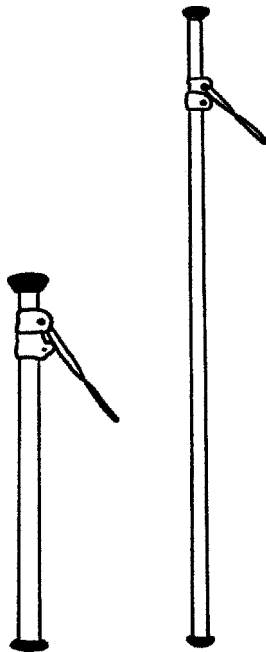

Figure 2.42 Matt poles.
1. Polecats (Figure 2.42) are adjustable poles that will support lightweight lighting and grip equipment.